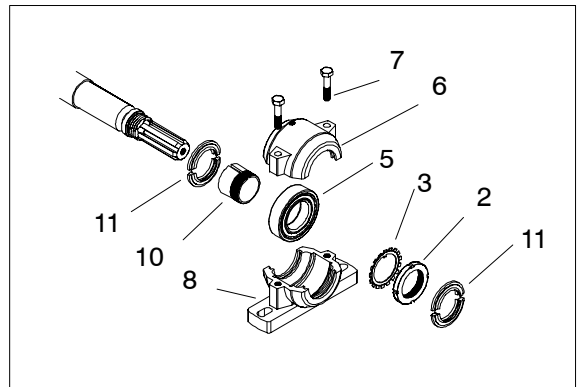

Fig. 29. Bearing, splined shaft side.
- The bearings at the feeder side and splined shaft side are different from each other. The bearing at the splined shaft side, Fig. 29., does not have spacer rings (4 and 9) and an end plate (1). The bearing at the splined shaft side has dust covers on both sides (11).